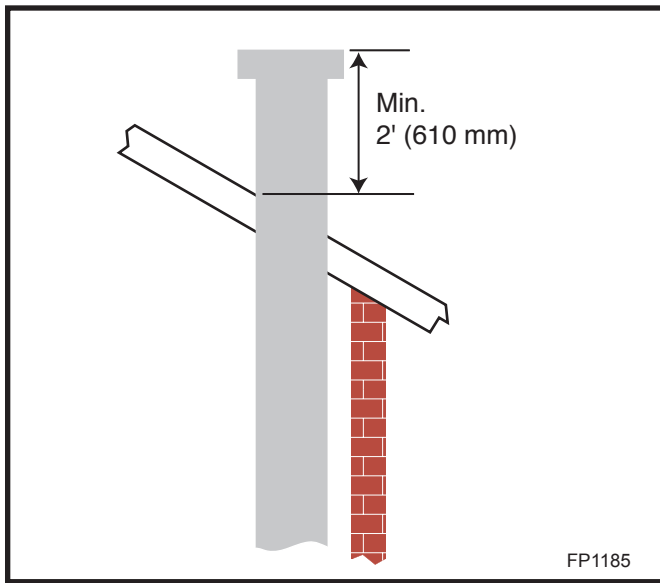

Fig. 45 Minimum termination to roof clearance.
- The minimum height of the vent above the highest point of penetration through the roof is 2' (610mm). (Fig. 45) Refer to Note 2, Page 11.